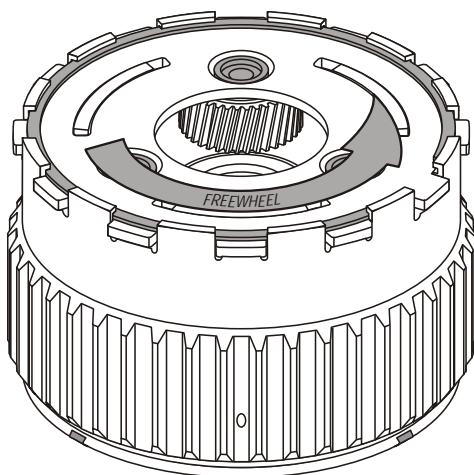

Figure 170
39. After installation, check for proper rotation of sprag assembly. Gearset should freewheel in a counter-clockwise direction and lock in the clockwise direction, as shown in Figure 170.